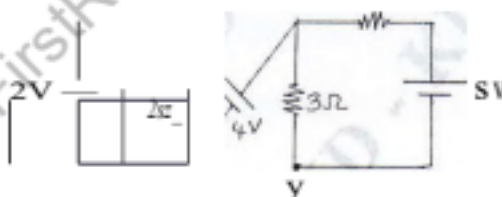

Fig.Q2(b)
- Apply Kirchoff's laws to find potential difference between X and Y for below shown electrical circuit diagram IN Fig.Q2(b). (07 Marks)